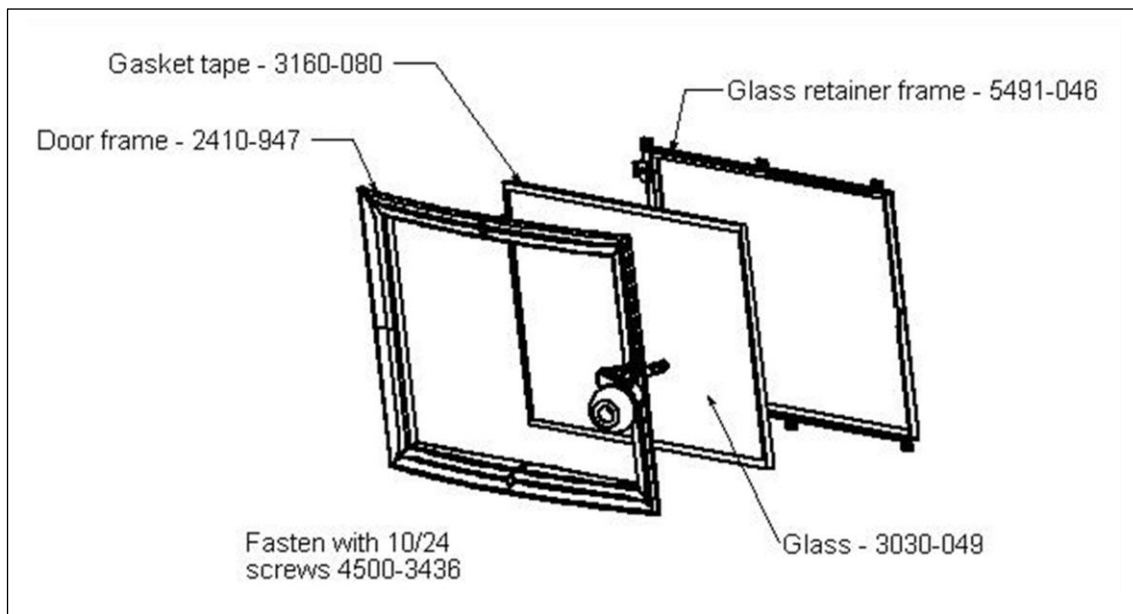

Figure 34 – Glass Replacement Components
**Door removal and glass and glass gasket replacement procedure is as follows:** Refer to *Figure 34*.